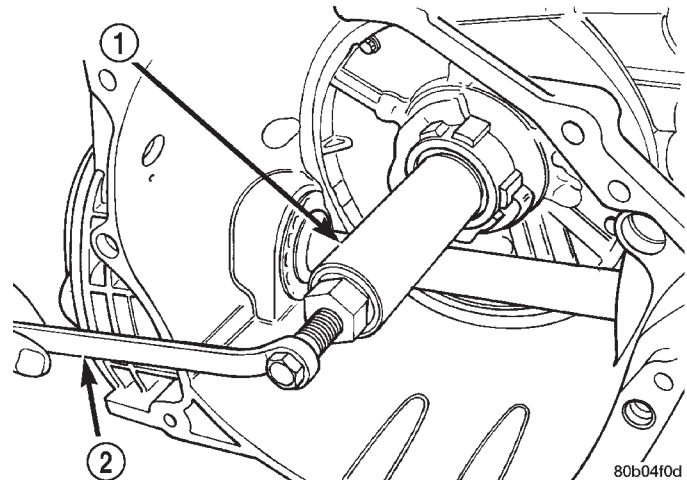

Fig. 105 Oil Seal Removal
- (1) Remove the transaxle from the vehicle.
- (2) Remove the torque converter from the transaxle bellhousing.
- (3) Use special tool C-3981B to remove oil pump seal (Fig. 105).